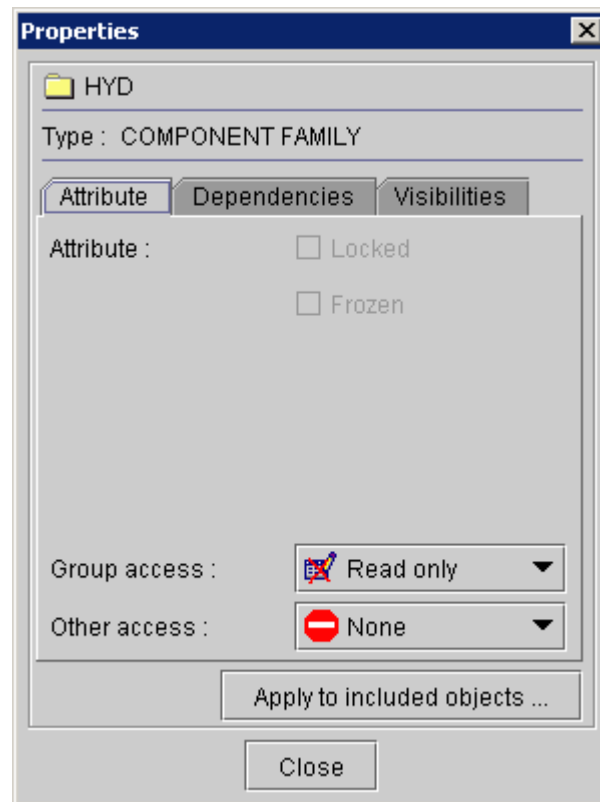

Figure 16 : Apply change to included Objects
- ◆ If you edit a Project or a Family of Models, you can specify if the rights must be applied to all included elements by clicking on Apply to included objects (Figure 16).